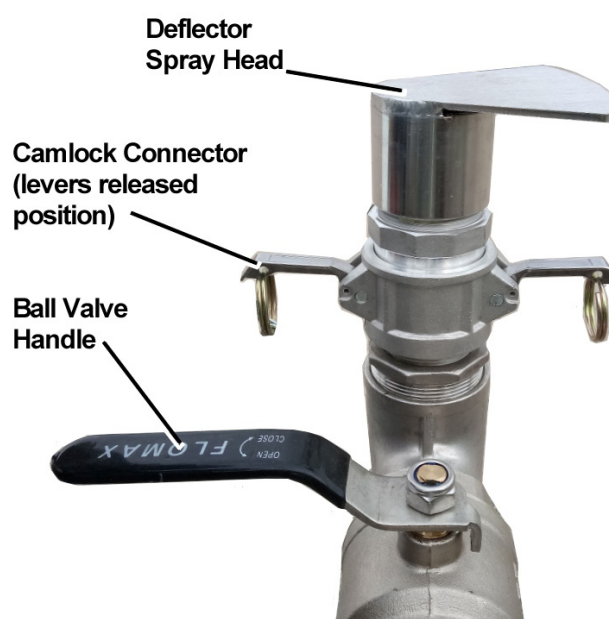

Figure 8 – Water Deflector Spray Head
1. If required, release the camlock connector to rotate the deflector spray head to the desired angle, refer to Figure 8. Lock the spray head back into place, ensuring the camlock levers are fully home.